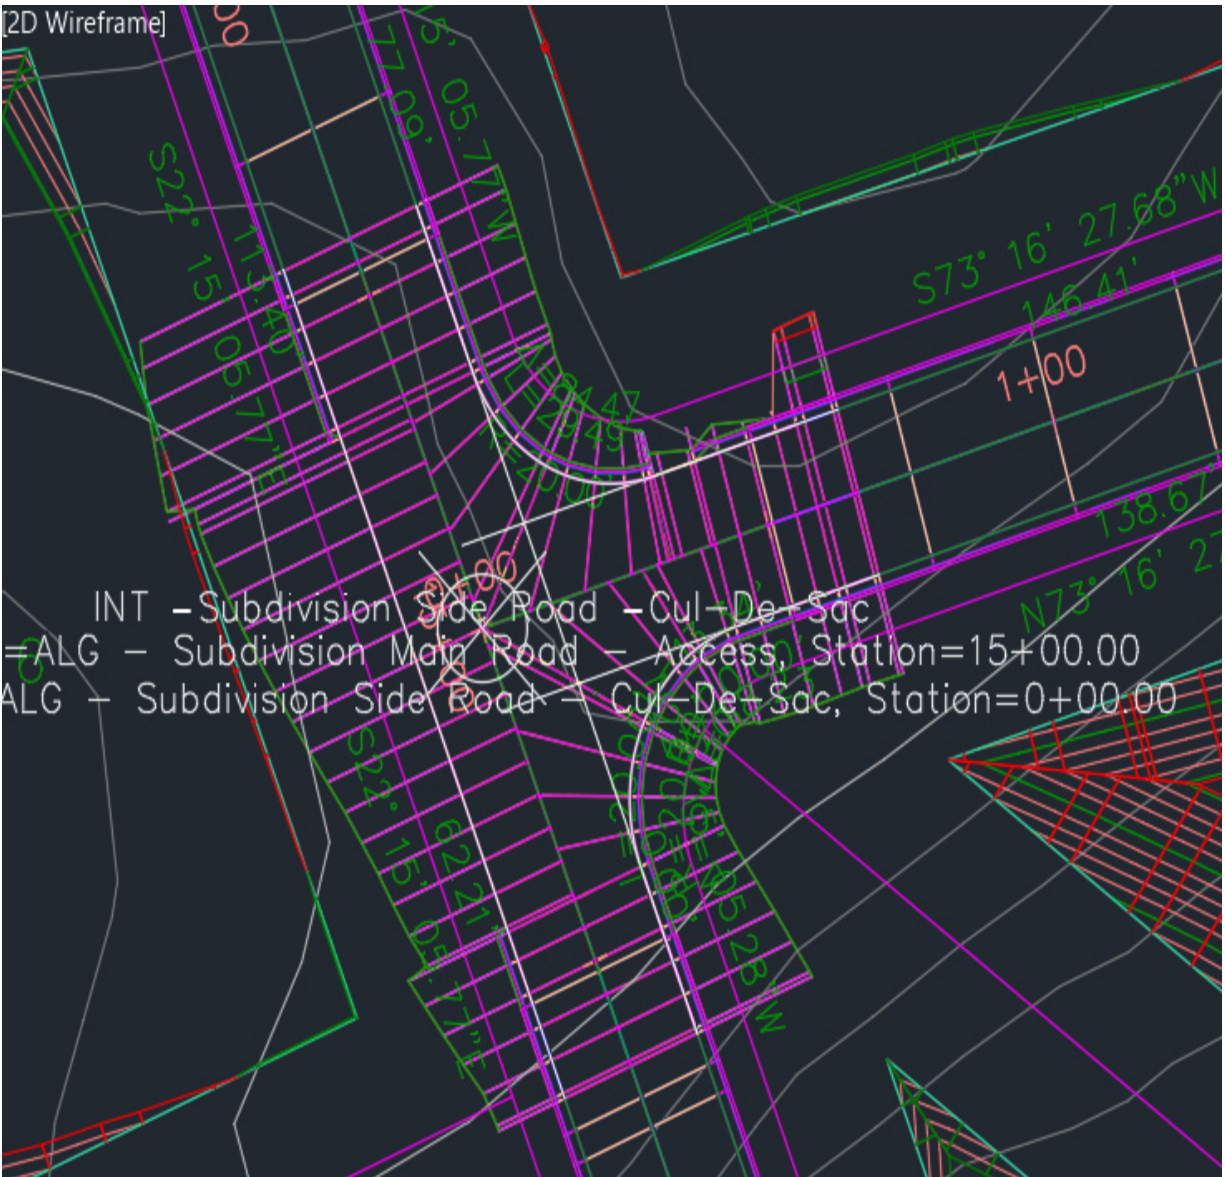

Figure 10.34 – Create Intersection | Corridor Regions
6. After selecting the **Create Intersection** button in the **Create Intersection** dialog box, our intersection corridor model will be created, similar to that shown in *Figure 10.34*:
- The first, most obvious, one is that in this view alone (refer to *Figure 10.34*), a few additional subassemblies have been applied to our intersection corridor model.